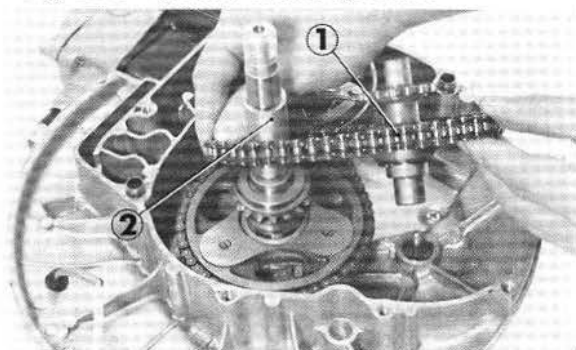

Fig. 2-37 ① Secondary driven sprocket
6. Remove secondary driven and drive sprockets together with the chain. (Fig. 2-37)